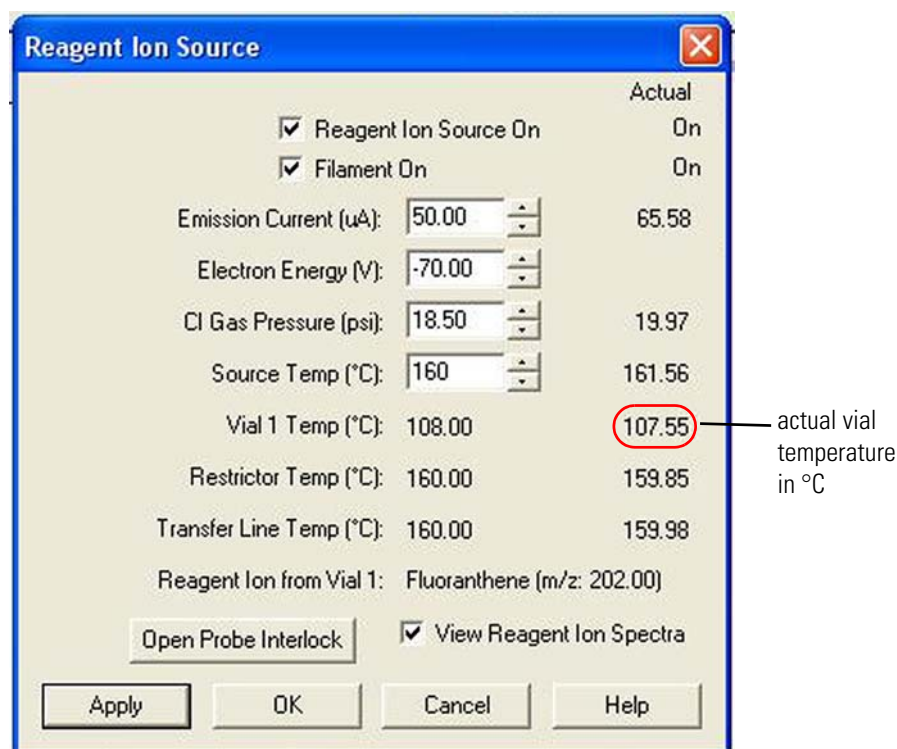

Figure 6-44. Reagent Ion Source dialog box
- Click the reagent ion source portion of the instrument control icon at the top of the Tune Plus window. The Reagent Ion Source dialog box appears (Figure 6-44).
Observe the temperature of Vial 1 in the Actual column of the Reagent Ion Source dialog box (Figure 6-44). Nitrogen cooling gas will flow until the vial reaches 70 °C. (See “Turning off the Reagent Ion Source: What to Expect” on page 5-14.) Wait up to 90 minutes for the vial temperature to reach ambient temperature (about 30 °C).
- b. Select the Reagent Ion Source On check box in the Reagent Ion Source dialog box when the ion source heater, the flow restrictor, and the transfer line heaters are at their operating temperatures. (See Figure 6-44 on page 6-52.)